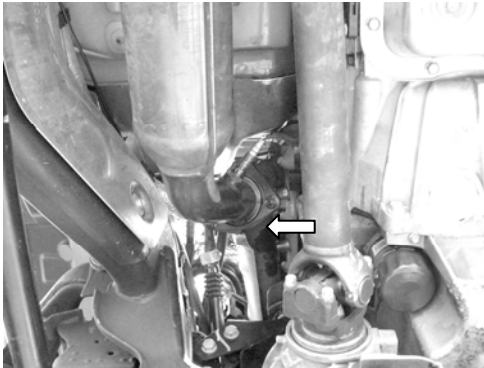

Figure 1
3. Unbolt the flanges as the one shown in figure 1 connecting the exhaust manifolds to the rest of the exhaust.